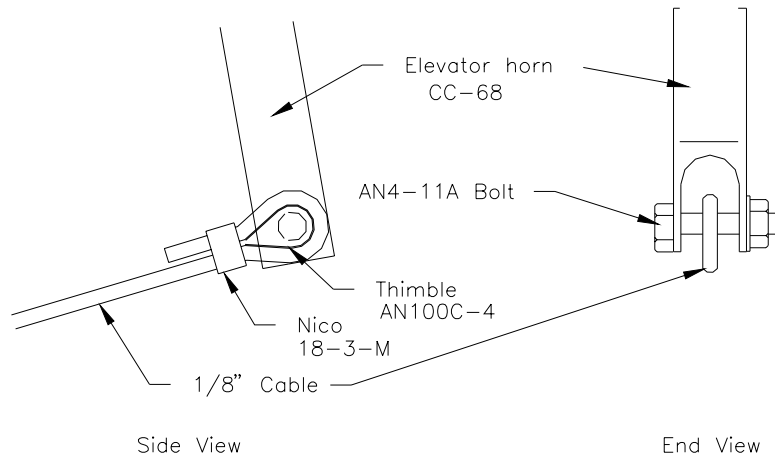

Figure 20.11.1
1) Assemble 1/8" cable and bolt to the elevator horn. Figure 20.11.1.